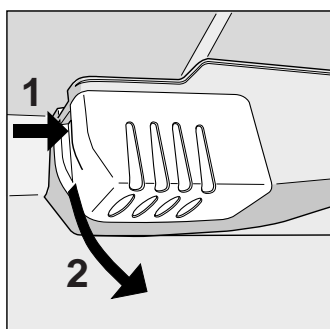

Fig. 4
- How to replace the internal lamp. The lamp for the internal light is situated at the rear of the thermostat box. To replace it, disconnect the appliance from the electricity mains, unscrew the faulty lamp and replace it with a new one featuring a wattage no higher than that indicated on the protection (15 W or 25 W), as illustrated in figure 4.